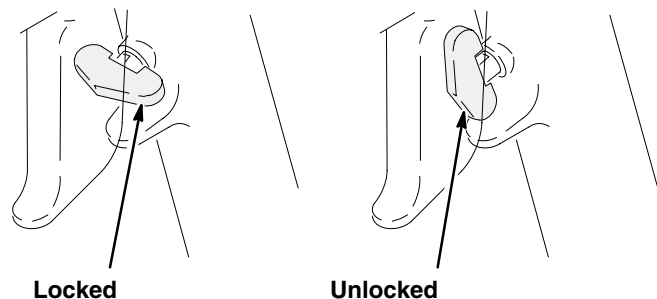

Fig. 4
1. If you are using one of the hand-held versions of the valve, lock the valve trigger safety by turning the latch to a right angle with the gun body. See Fig. 4.